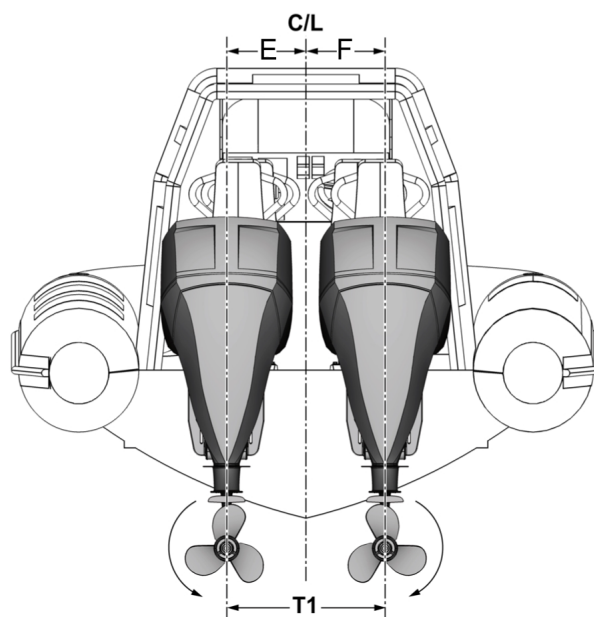

Fig. 21 Transom centreline - twin installation
1. Mount both OXE outboards so that the distance of each outboard centreline to the transom centreline are equal on both sides, i.e. measurements **e** and **f** should be the equal. See Figure 21.